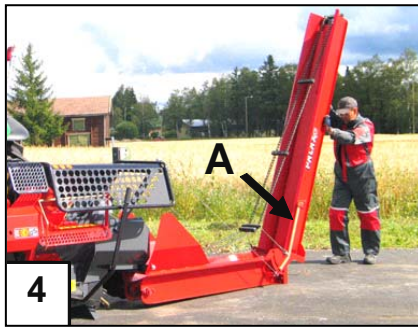

Fig. 4. Unfolding the conveyor 1/2
2.6 Bringing the conveyor into the work position, Figures 4 and 5
5. Pull open lock A (Fig. 4).